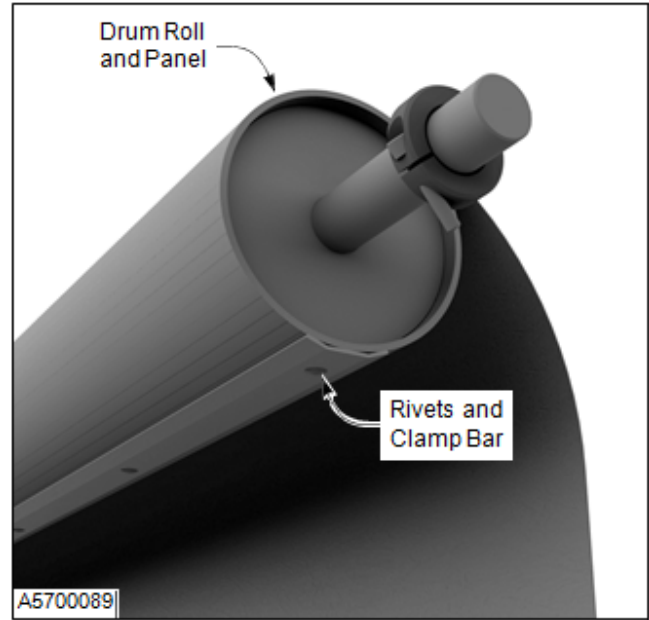

Figure 48
7. Drill out the rivets from the clamp bar and remove the drum roll panel. (See Figure 48)